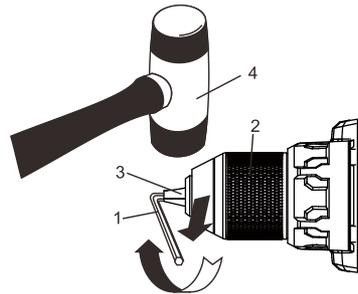
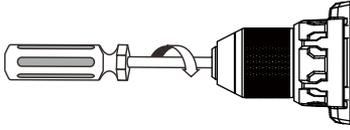
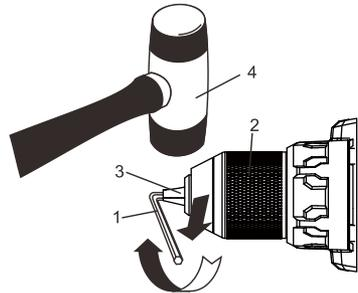

Fig. 13
Fig. 14
Fig. 16
2. Insert a 5/16" (8 mm) or larger hex key (1) into the chuck (2) and tighten the chuck jaws securely (Fig. 13). Make sure each of the chuck jaws (3) is seated on the flat surfaces of the hex key.
3. Tap the hex key sharply with a mallet (4) in a CLOCKWISE direction. This action will loosen the screw in the chuck for easy removal.
6. Remove the chuck screw using a #2 \oplus screwdriver (Fig. 14). NOTE: Turn the screw CLOCKWISE to remove it. This screw has a left-handed thread.
2. Insert a 5/16" (8 mm) or larger hex key (1) into the chuck (2) and tighten the chuck jaws securely (Fig. 16). Make sure each of the chuck jaws (3) is seated on the flat surfaces of the hex key.
3. Tap the hex key sharply with a mallet (4) in a COUNTER-CLOCKWISE direction. This action will loosen the screw in the chuck for easy removal.
5. Tighten the chuck screw using a #2 \oplus screwdriver (Fig 14).